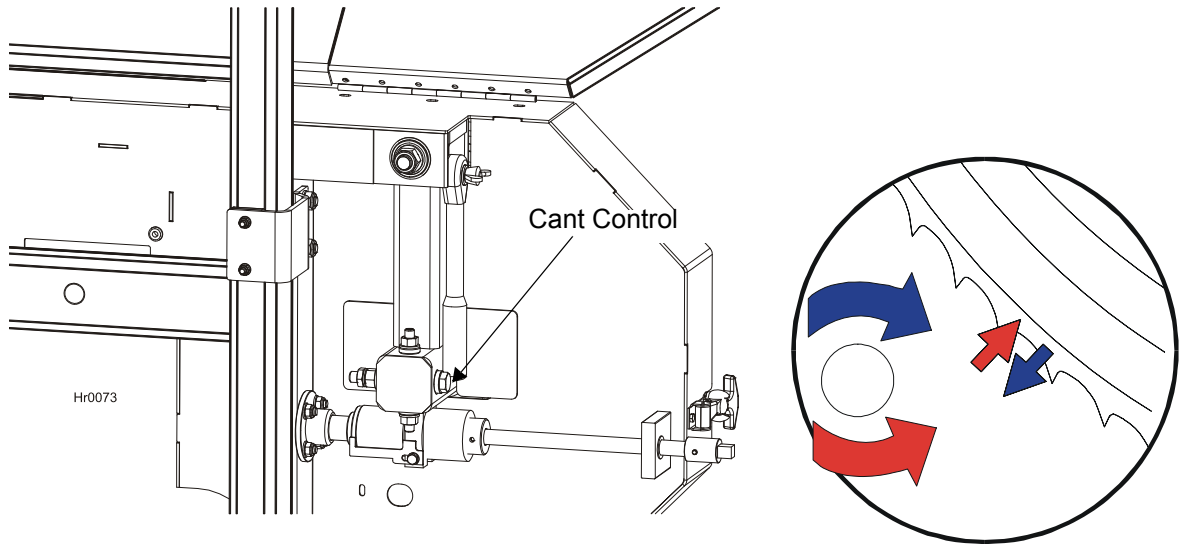

FIG. 4-6
**See Figure 4-6.** Use the cant control adjustment to adjust the idle-side blade wheel. If the blade is too far forward on the wheel, turn the cant control counterclockwise. If it is too far back on the wheel, turn the cant control clockwise.